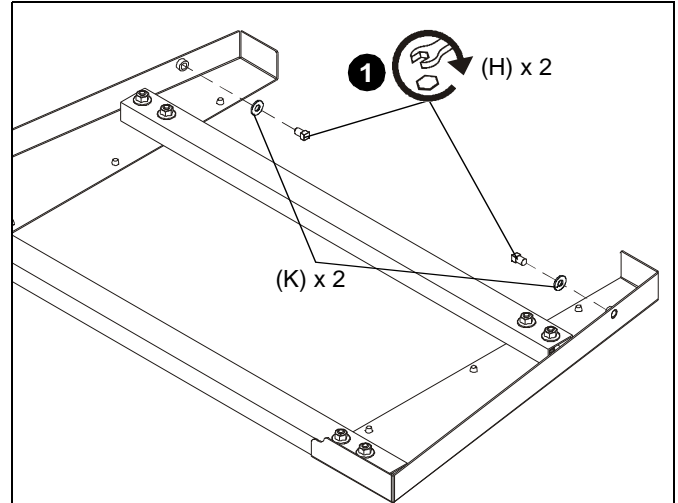

Figure 2
1. Partially install two 5/16-18 x 1/2" square head cap screws (H) and two 1/4" flat washers (K) into side holes on wedge plates. **DO NOT TIGHTEN!** (See Figure 2)